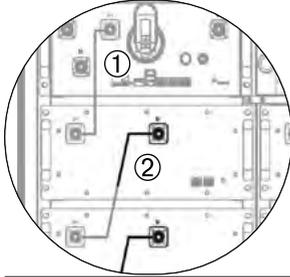

Fig. 8.14
- Connect the BMS and battery No. 1 in parallel by connecting the orange B+ terminals of the BMS and the orange B+ of the battery using the orange/orange quick connector terminal cable supplied with the rack (1-Fig. 8.14).
- Connect the batteries in series by connecting the black B- terminal of each battery to the orange B+ terminal of the next battery using the black/orange quick connector terminal cable supplied with the rack (2-Fig. 8.14).